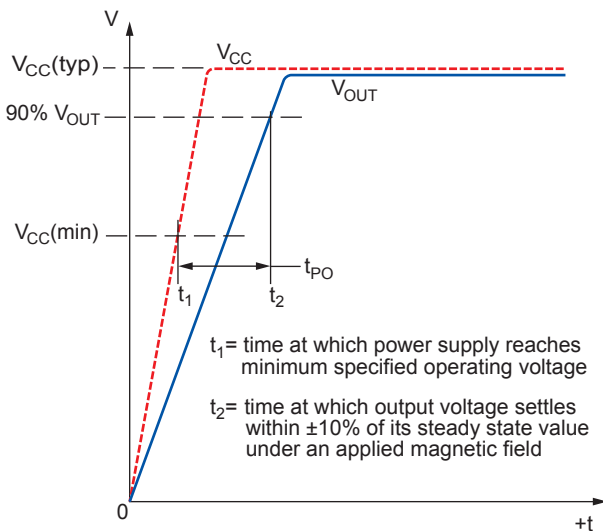

Figure 1. Definition of Power On Time,  $t_{PO}$
**Power-On Time.** When the supply is ramped to its operating voltage, the device output requires a finite time to react to an input magnetic field. Power-On Time,  $t_{PO}$ , is defined as the time it takes for the output voltage to begin responding to an applied magnetic field after the power supply has reached its minimum specified operating voltage,  $V_{CC(min)}$ , as shown in figure 1.